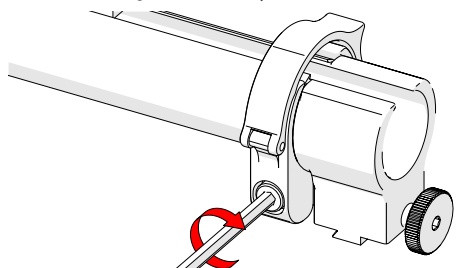

Fig. 83 - Tighten clamp screw
4. Tighten the clamp screw (Fig. 83).